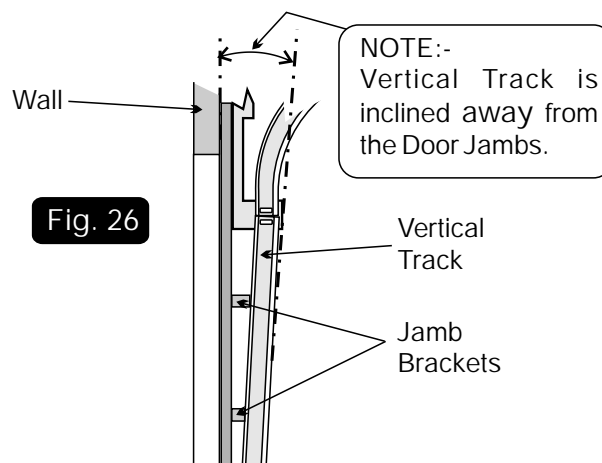

Fig. 26
- c) The Vertical Tracks, when viewed from the side, are not "exactly vertical", i.e. they are not parallel to the wall. The tracks must be inclined at a slight angle to the wall as shown in Fig. 26